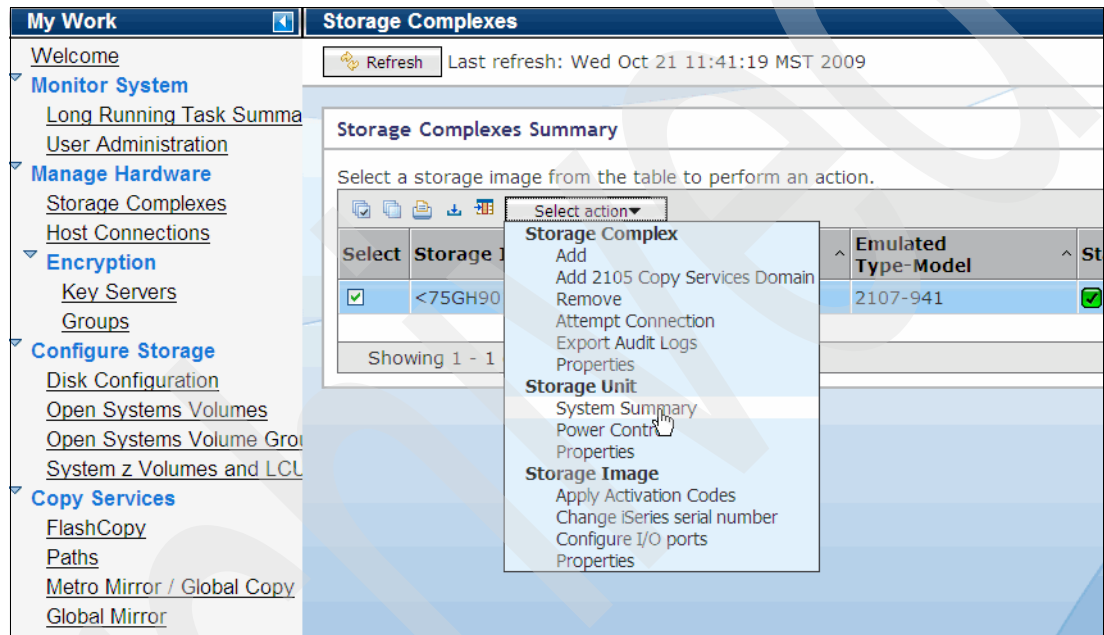

Figure 13-75 Select Storage Unit System Summary
1. In the My Work section in the DS GUI welcome window, navigate to **Manage Hardware** → **Storage Complexes**. The Storage Complexes Summary window opens. Select your storage complex and, from the Select action drop-down menu, click **System Summary**, as shown in Figure 13-75.